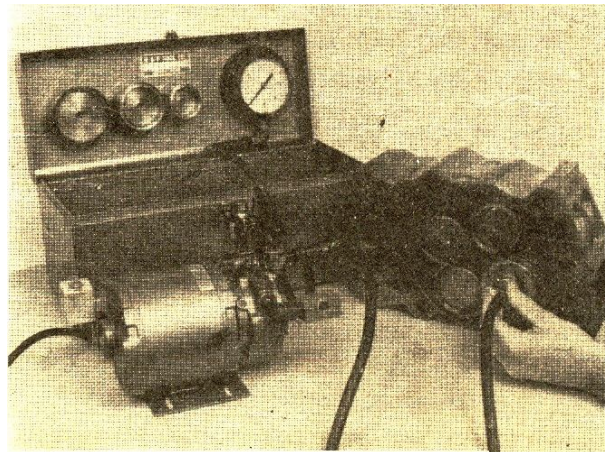

Fig. 2-23, Vacuum test the valves for leaks
1. Operate the vacuum pump until the hand on vacuum gauge (1, Fig. 2-23) reaches 18 to 125 inches [457 to 635 mm] vacuum. Close the shutoff valve (2). Keep the motor running while checking the vacuum.